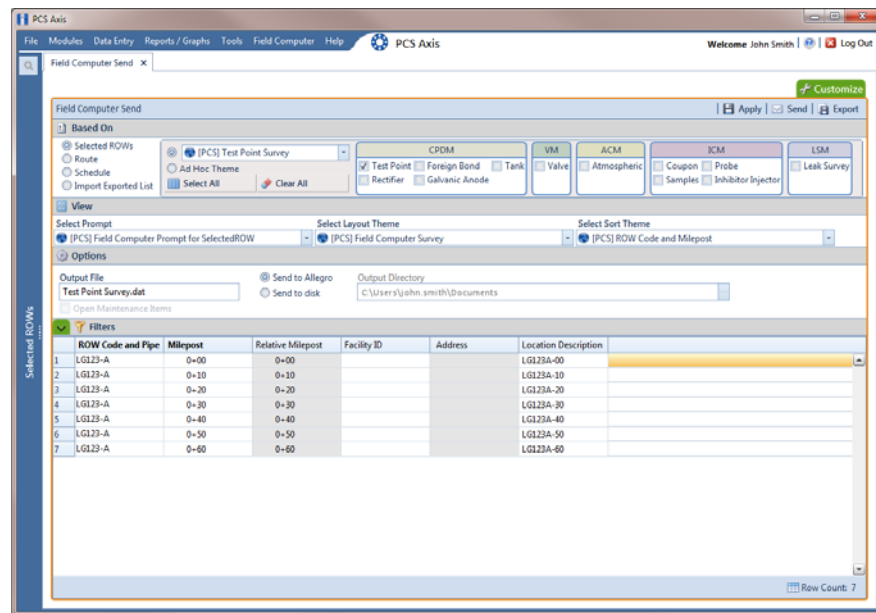

Figure 13-2. Select ROWs and Facility Type(s)
- 3 Click **Field Computer** > **Send** to open the *Field Computer Send* window (Figure 13-2, page 561).
- 6 Select a prompt, layout, and sorting theme as follows (Figure 13-2):